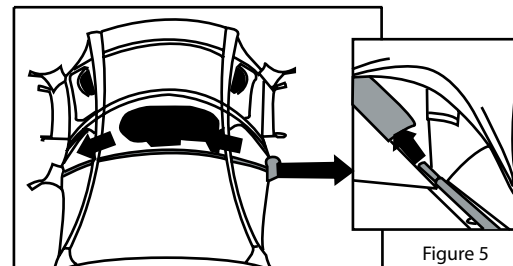

Figure 5
5. Insert the remaining pole with grommet tips on both ends into the final pole sleeve that runs the width of the BaseCamp tent (Figure 5).